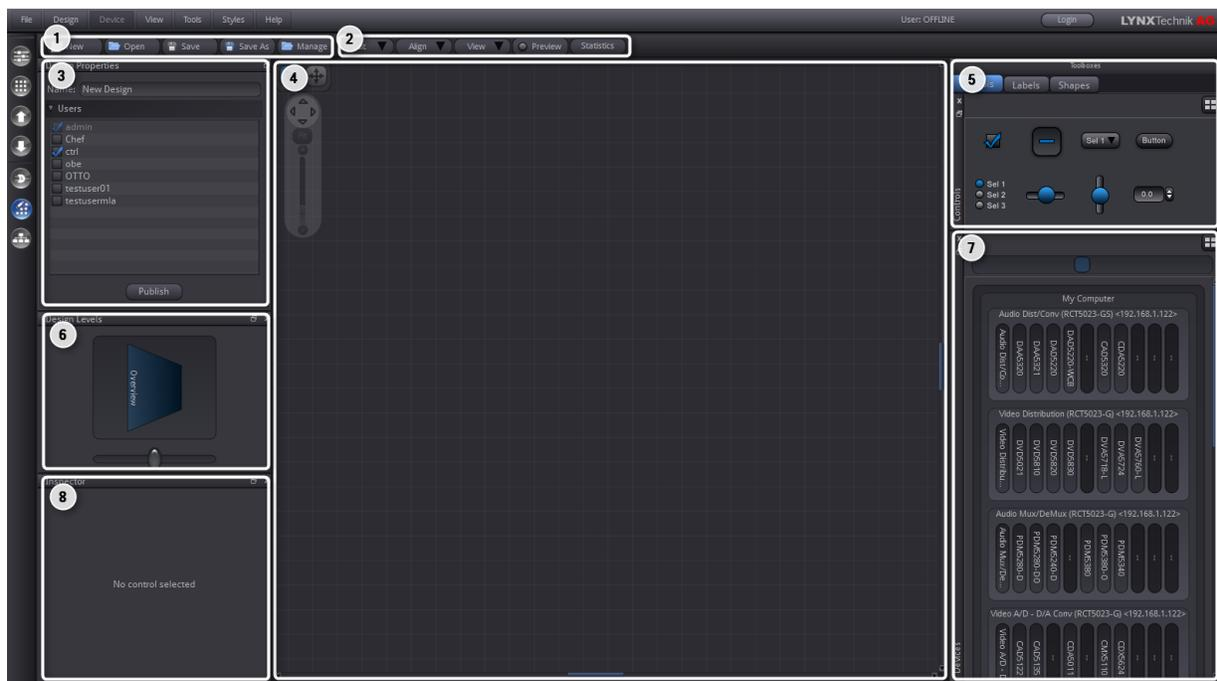

figure 1: Layout of CustomControl editor window
See area (1) in figure 1: A CustomControl Design is stored and managed like a regular file on the hard-drive of your workstation. The usual functions provided here let you create a new Design, save your latest changes etc. The "Manage Designs ..." button shows the list of all available Designs, and allows for import/export/deletion of any such Design file.
See area (2) in figure 1: A few assisting functions make the editing of a Design easier. You can select, cut, copy and paste elements, you can undo and redo your recent changes, and you can also display a grid-line overlay to help with the correct alignment of elements.
See area (3) in figure 1: This section controls various properties of the current Design (i.e. the Design that is currently loaded into the Editor). Use these functions to change the Design's name and also the users, to which the Design shall be published. In addition, here is the "Publish ..." button that can be used to actually publish the Design onto a named Server in your LYNX network. For more details, see page 10.
See area (4) in figure 1: This central area is where you build your Custom Design. The various possibilities and workflows are described in the example on page 9.
See area (5) in figure 1: Various different content elements are provided as the building blocks that you will use to populate your Design. The elements are structured in various toolboxes.
See area (6) in figure 1: You can use one or more Container elements in your Design (from the "Shapes" Toolbox), and then place individual controls either into such Containers, or next to them. This results in a hierarchical structure, where some controls are located on a "higher" resp. "inner" level with respect to others. You can also place a Container into another Container, which creates even more levels of hierarchy in your Design.
See area (7) in figure 1: The ParameterPicker Tool is a representation of all devices (real or simulated) with all their properties and parameters that are currently connected to this APPolo GUI. Real devices are, however, presented only if the appropriate Server has the OC_*_CUSTOMCONTROL option activated.
In the inspector area (see area 8 in figure 1) the assigned parameter of the selected control can be customized. The Inspector Tool not only enables you to access and edit the parameter and value names but also provides detailed information about the parameter of the control selected in the Main Editor Area.